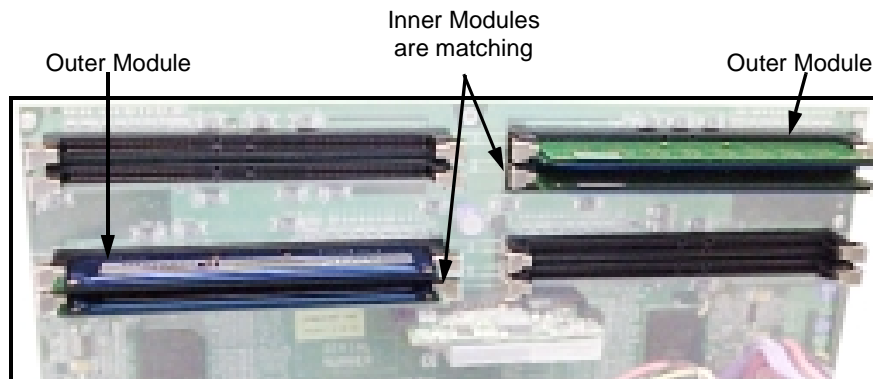

Figure 2.1
- Step 1** Line up your module so that the pins fit into the slot. There is only one way your memory module can fit properly. Make sure that the short row of pins is lined up with the short gap in the RDRAM socket. See **Figure 2.1** (on p.17) for graphic details on how the memory should be installed.
- ➡ Inner and outer RIMM sockets must be matching (e.g. if you have one RIMM module in the inner socket, another RIMM module must be installed in the other inner socket, and so on). See **p. 20** and **Figure 2.1** (below) for an example.
- ➡ Any empty slots must be filled with C-RIMM Continuity modules. Tyan has included (2) C-RIMM modules for your convenience (examples** are shown above in **Figure 2.1**).